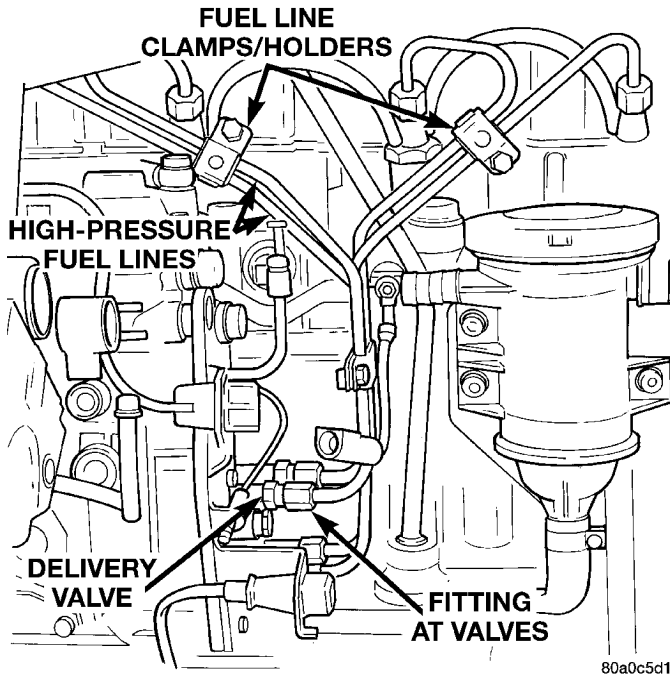

Fig. 48 Fuel Lines and Clamps/Holders
(2) Remove the necessary clamps (Fig. 48) holding the lines to the engine.
CAUTION: Be sure that the high-pressure fuel lines are installed in the same order that they were removed. Prevent the injection pump delivery valve holders (Fig. 48) from turning when removing or installing high-pressure lines from injection pump.